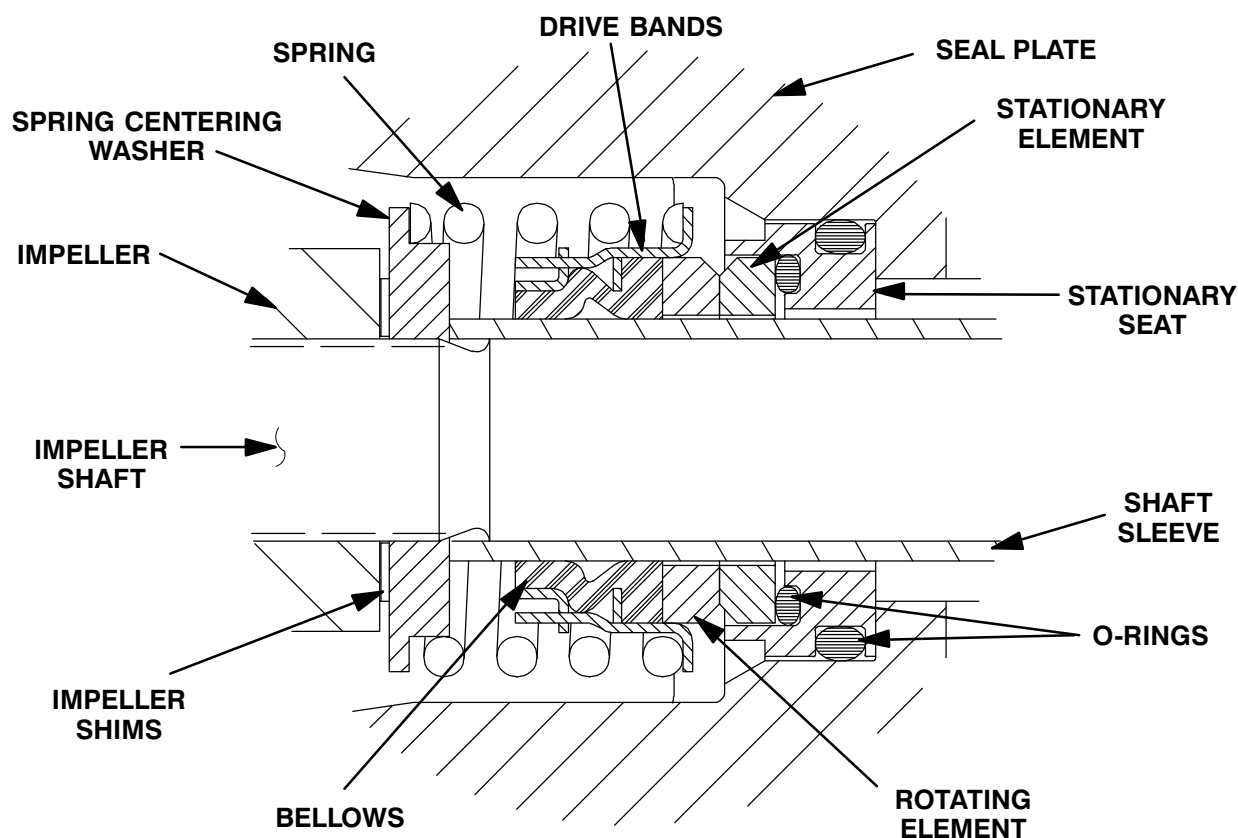

Figure 3. Seal Assembly
To ease installation of the seal, lubricate the O-rings and shaft sleeve (17) with water or a very **small** amount of oil, and apply a drop of light lubricating oil on the finished faces. Assemble the seal as follows, (see Figure 3).